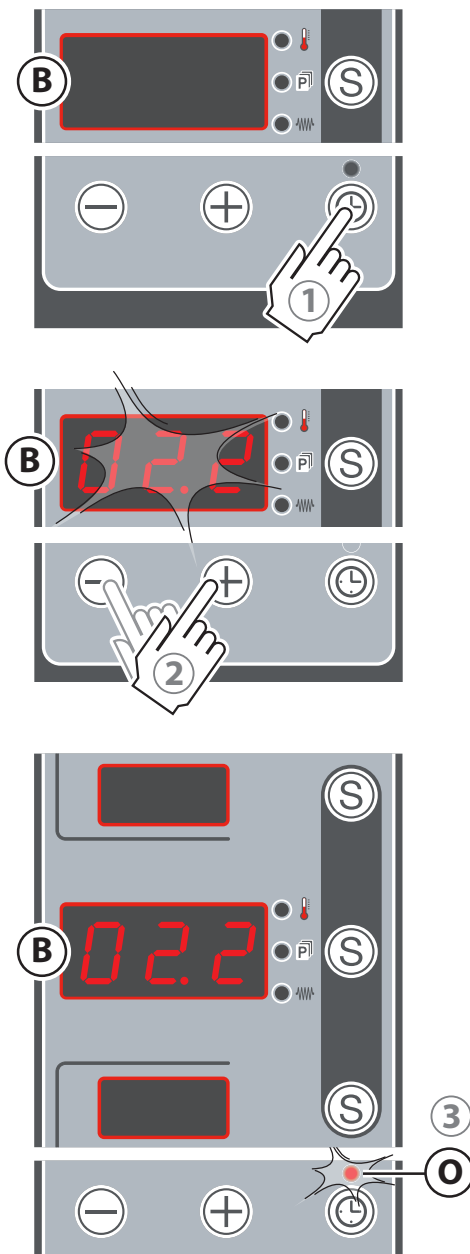

Fig.16.
See ► chapter “**Programmed switch-on**” on page 14 and Fig.16.
► Fig.16.
- 2 while the display is flashing (B), using the “+” or “-” keys, set the desired time (maximum limit 99.5 that is 99 hours and 50 minutes, in the example 02.2 = 2 hours and 20 min.).
- 3 When the display stops flashing, (B) the set value will be stored, the other two displays will switch off and the countdown will start; the LED flashing (O) shows that the function is active.